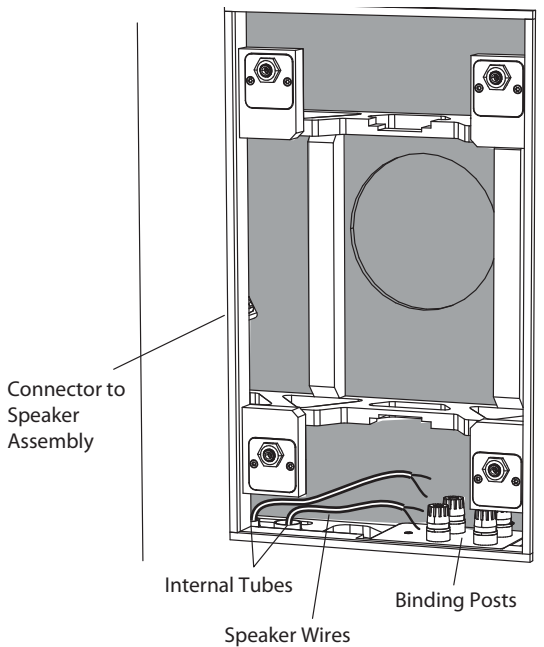

Fig. 5. Speaker Wire Installation to BACK CAN Terminals
4. The positive wire from your amplifier should go to one of the red (positive) terminals inside the back can (Fig.5). The negative wire from your amplifier should connect to one of the black (negative) terminals. You can use the other red and black terminals to run speaker wiring out of the other cable gland and out to another speaker.